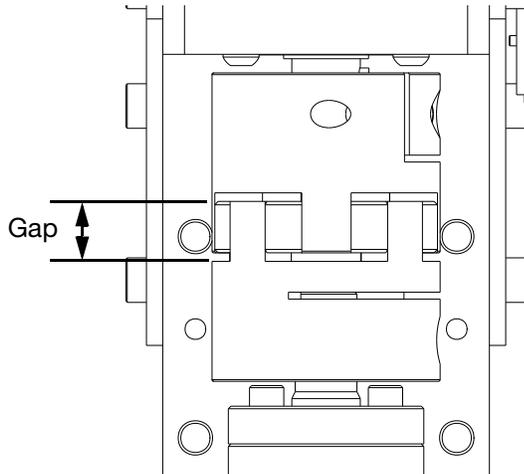

FIG. 22
- Separate coupling until proper gap is created. FIG. 22. See the following table.